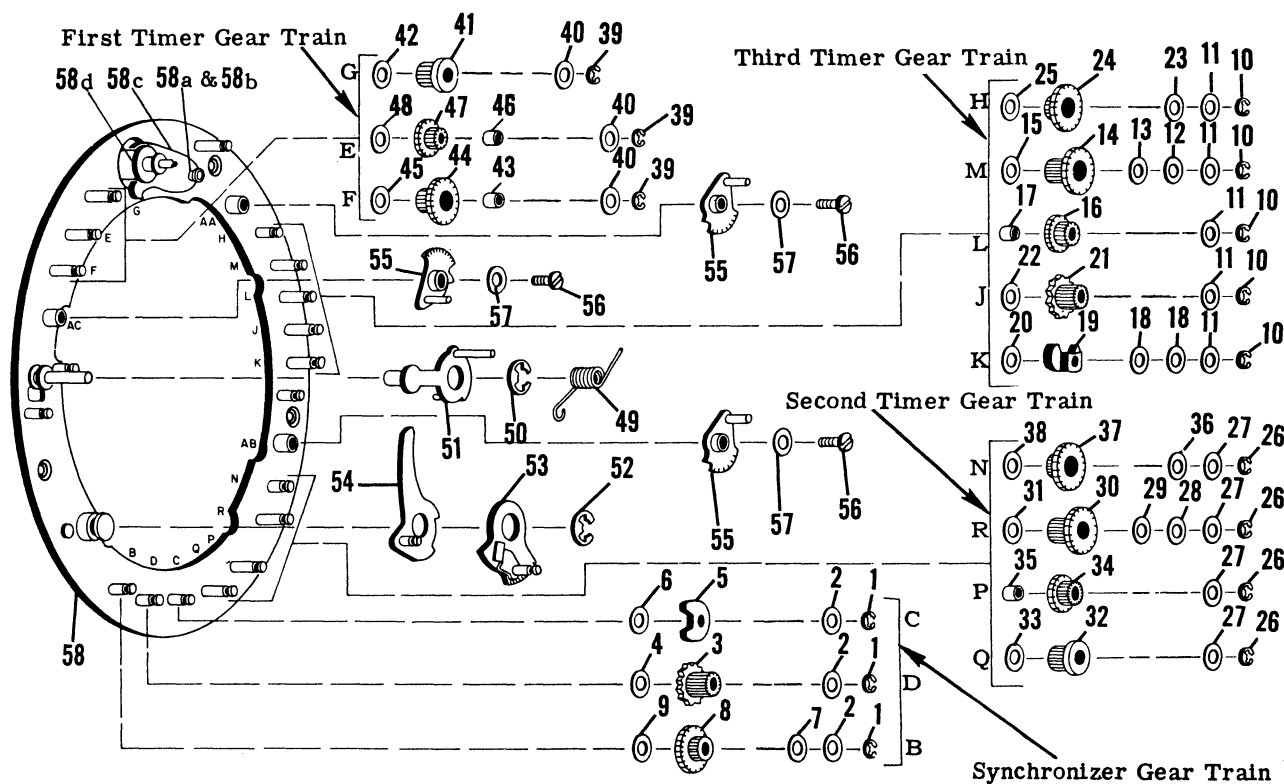
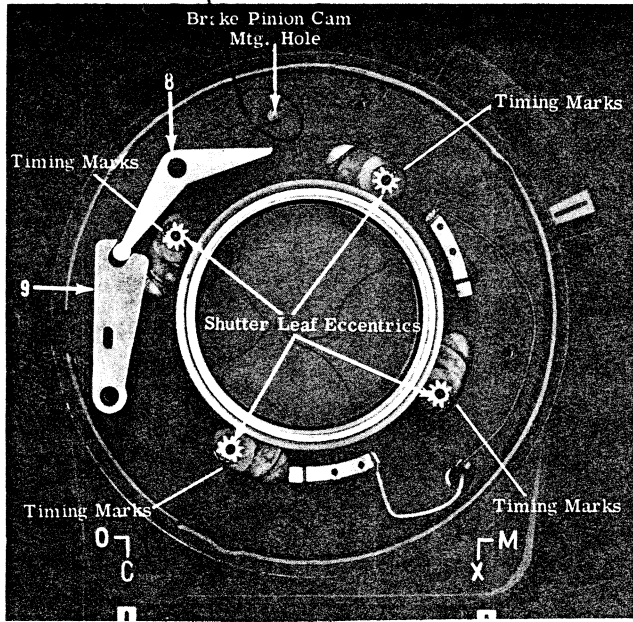
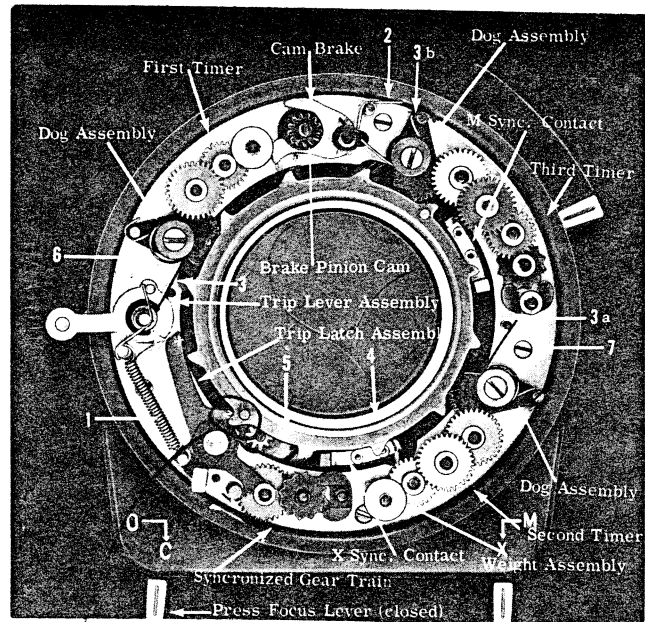

Figure 5. CONTROL PLATE COMPLETE
Figure 12.
Figure 13.
Gear trains (posts on control plate)	Figure 5
Screws (threads)	56, Figure 5
Loose post on control plate assembly (58, Figure 5)	Replace control plate assembly
7. All components of the control plate (6, Figure 13) secured by screws or retaining rings can be removed without removal of the control plate from the shutter. Complete breakdown of the control plate is shown in Figure 5.
8. When removing screw (7, Figure 13) between sync. and second timer gear trains, it may be necessary to remove weight assembly in second timer train to avoid bending post on control plate.
The exploded view of the control plate (Figure 5) and the key given with the figure shows disassembly order for completely stripping the control plate. Use the figure and key to identify components and maintain relative component positions. All procedures are obvious except for the following special instructions.
2. When assembling timing dog assembly (55) and retainer (57) to posts AC, AB and AA, do not completely tighten screws (56). Reverse control plate and apply one drop of adhesive (39491P4) to each screw hole before tightening screws.
5. The control plate assembly (58) includes the brake stud (58a), brake spool (58b), cam brake (58c) and brake pinion cam (58d). Refer to para L for special repairs involving these parts.
6. First timer train on current control plate is assembled as shown with spacers on top of timing gears (44 and 47). Earlier models had the spacers mounted underneath the timing gears. If an earlier model is being repaired, up date the first timer train by substituting the new timing gear (44, Figure 26) on post F. Mount both spacers (43 and 46) on top of timing gears (44 and 47) as shown in Figure 5.
- a. Place cable release lever (9, Figure 12) and trip lever (8) over machined bosses on front housing.
- c. Before assembling control plate complete (6, Figure 13) into front housing, apply a thin coat of lubricant (39484P8) to all surfaces of brake pinion cam. Position control plate so that brake pinion cam locates in mounting hole in front housing (Figure 12), and post on trip lever assembly (Figure 13) locates in slot in cable release lever (9, Figure 12). Apply sealant (39491P4) to threads of four screws (7, Figure 13) and secure control plate.
- e. Locate timing marks on four shutter leaf eccentrics (Figure 12) so that centerline between timing marks of each eccentric is visually aligned to center of shutter. Timing marks on each eccentric should point directly toward outside of housing. Apply a thin coat of lubricant (39484P2) to
inside diameter and bottom surfaces of drive gear assembly (5, Figure 13). Position three dog assemblies away from center opening, and assemble drive gear so that front face of a tooth containing a spring post is against surface (z) on trip lever assembly. Do not allow any other lubricant to contact drive gear. Assemble drive gear bearing (4) with step facing up.